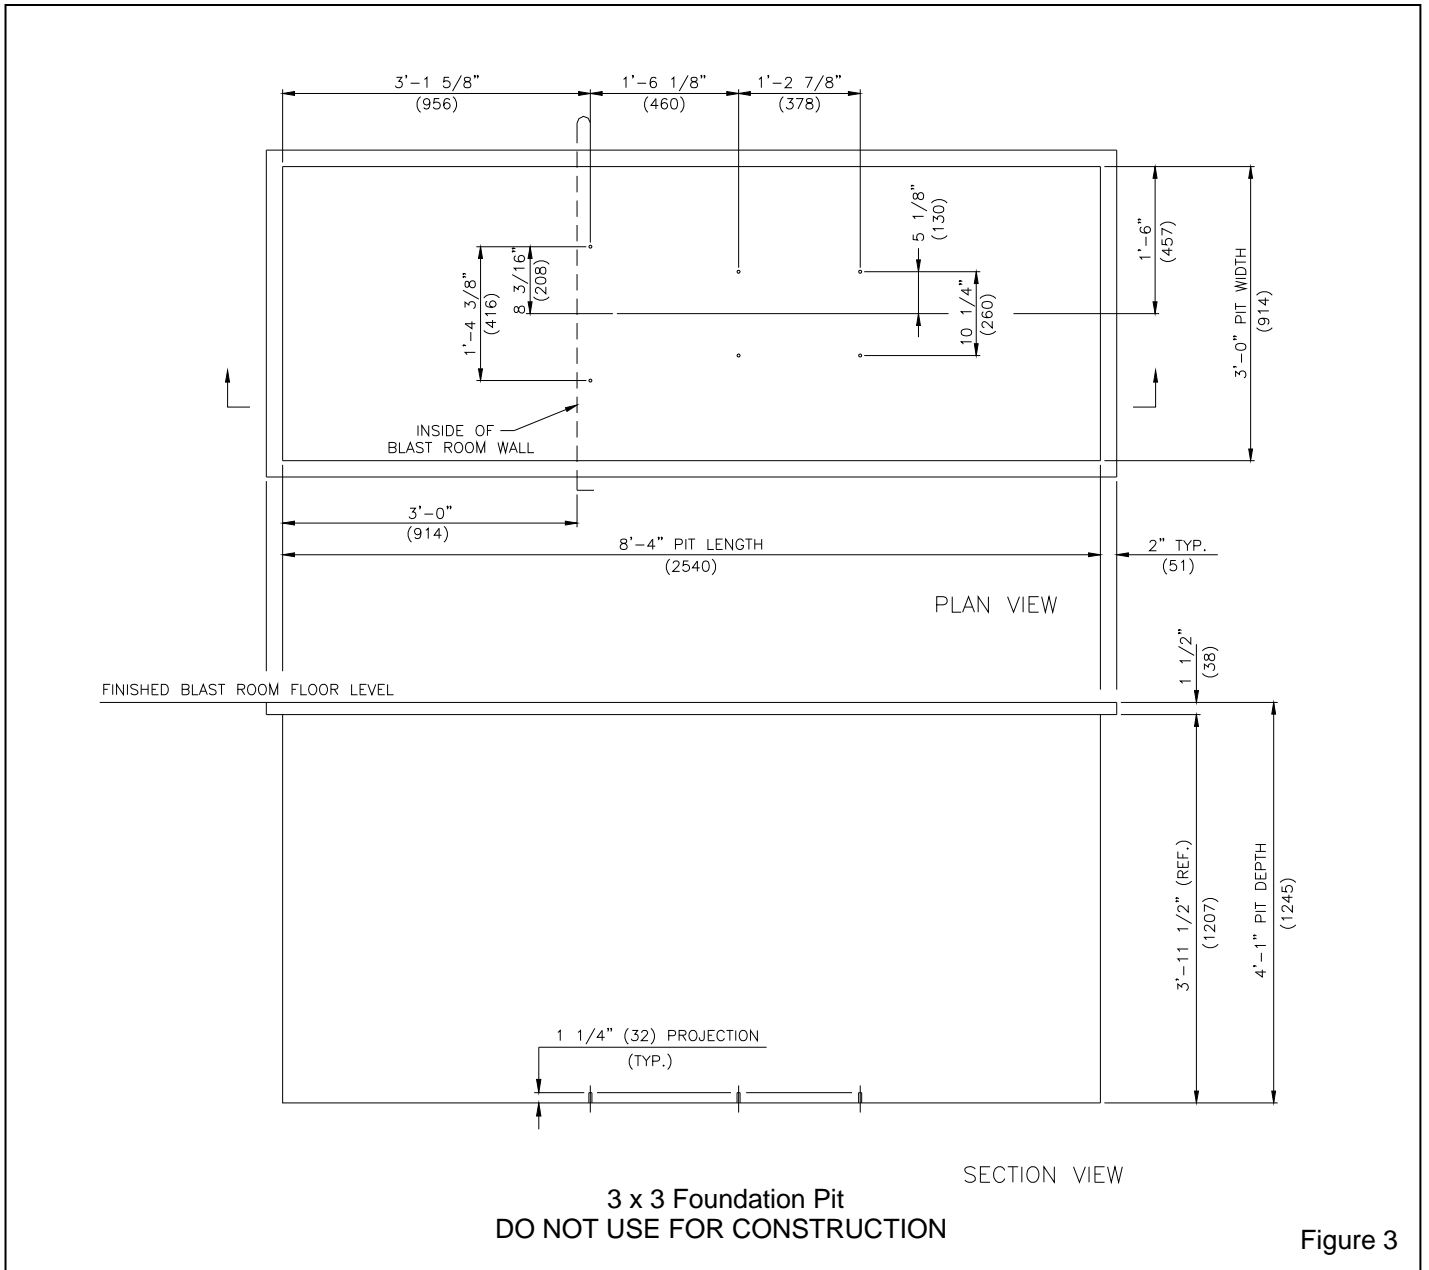
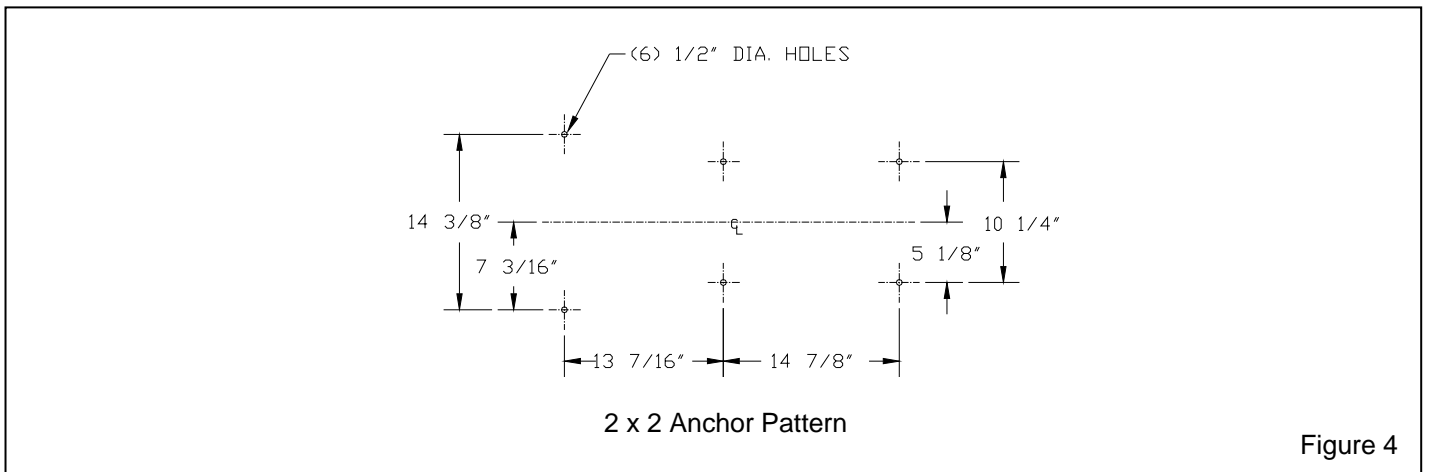

Figure 3
Figure 4
**1.5.1** Prior to installation of a 3 x 3 system, a foundation pit must be poured. All foundation work is provided by the purchaser. The illustration in Figure 3 is exemplary only, and subject to change. A foundation drawing is provided with the 3 x 3 system, refer to the drawing before excavating and pouring the foundation pit. The illustration in Figure 4 shows the anchor pattern for a 2 x 2 system.